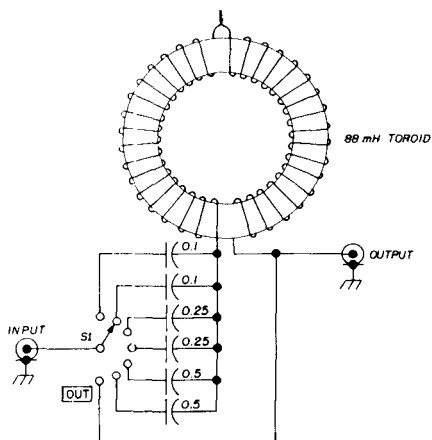

fig. 3. Frequency-selectable filter for improved cw reception. S1 is a shorting-type switch that connects the capacitors in parallel.
This isn't too difficult. If you know the frequency of the tone generator, and the upper-sideband position is used for cw, then tune your dial lower in frequency by an amount equal to the frequency of the tone oscillator (see **fig. 3**). If the audio tone is converted to "carrier" and the true carrier is suppressed, to be on frequency you must sidestep the dial tuning to place the resultant "carrier" where the true carrier would have been if it were radiated.
**fig. 3.** Frequency setting on cw with ssb transmitters using a tone generator. In the example shown, usb is used; dial setting must be set lower in frequency by an amount equal to tone oscillator frequency.
As I mentioned at the beginning of this article, these filters are designed for bare-bones simplicity. However, if you'd like more versatility at the expense of a few more components you can make a number of tuning capacitors switch-selectable. A selection of filter frequencies will allow the cw operator to copy signals that may otherwise be lost in extremely heavy interference. A schematic of a multiple-frequency filter is shown in fig. 3.